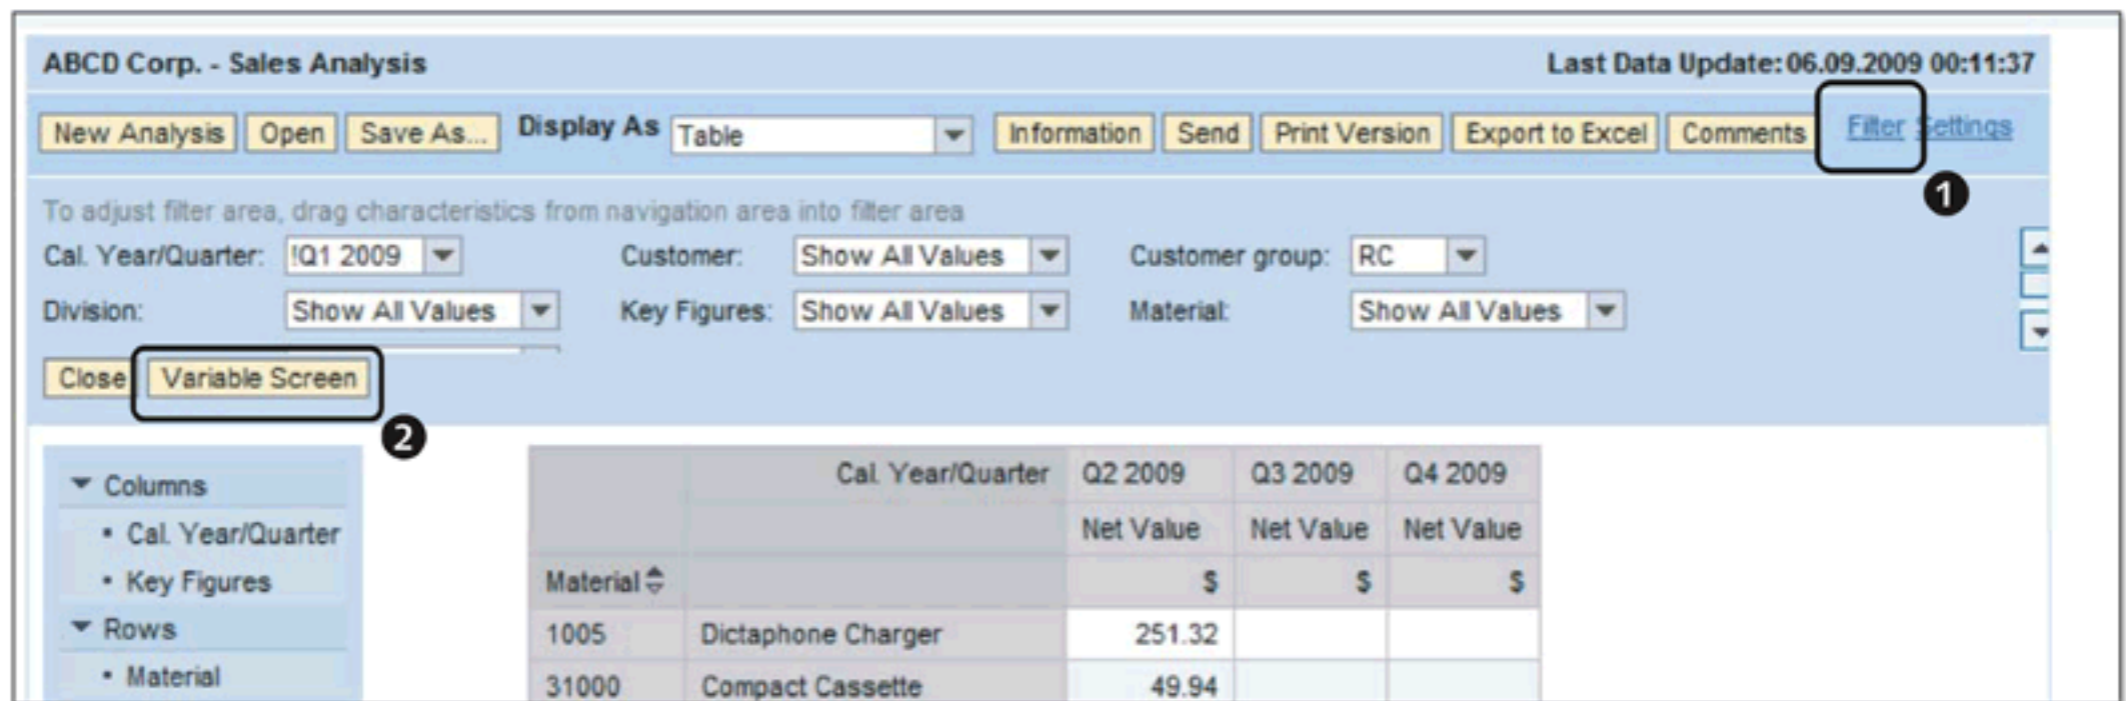

Figure 10.55 Analysis Filters
Apart from all of the navigation options discussed previously, if you also want to work with the multiple filters applied to the data, a detailed filters view is available after you click on the FILTER link (❶ of Figure 10.55). This action displays all of the characteristics and structures used in the query, and you can specify the filter on the displayed data. The VARIABLE SCREEN button (❷) calls the variable selection screen and allows you to change the variable selection for the query.
BEx Web Analyzer also allows you to maintain additional settings, which can be used to perform advanced analysis on data. Click on the SETTINGS link (Figure 10.55) to call the settings view.